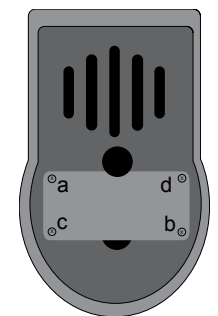

Fig. 84 - Cover Installation
- Carefully tighten the screws by alternately turning them each one turn at a time (Fig. 84). Turn the upper left one (a), then the lower right (b), then the lower left (c), then the upper right (d).